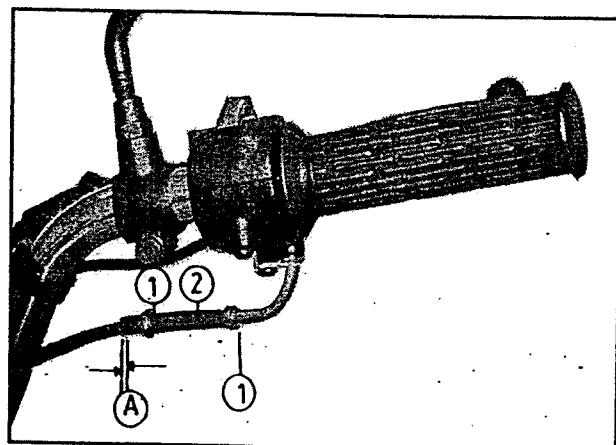

Fig 2.6
There should be 0.5 - 1.0 mm play (A) (fig 2.6) on the throttle cable. To adjust the throttle cable play:
- Loosen the lock nut 1 (fig 2.6) and turn the adjuster 2 in or out until the specified play is obtained.